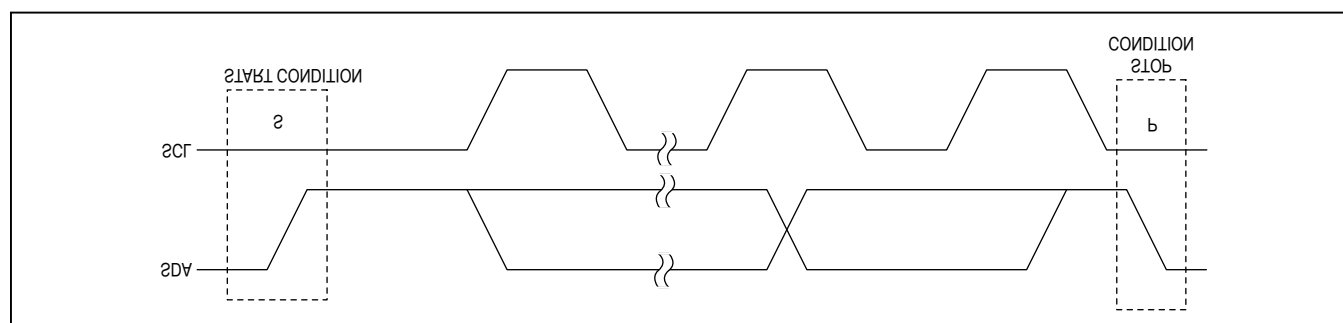
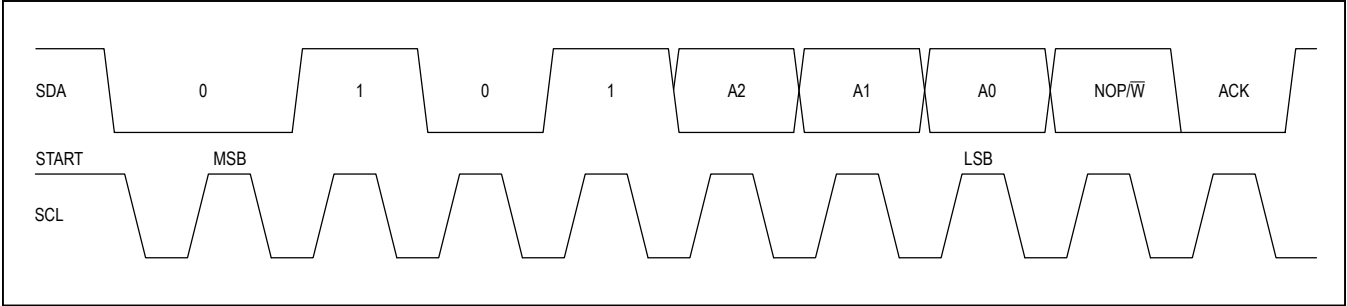

Figure 3. START and STOP Conditions
Figure 6. Slave Address
Each transmission consists of a START (S) condition (Figure 3) sent by a master, followed by the MAX5387 7-bit slave address plus the NOP/ \overline{W} bit (Figure 6), 1 command byte and 1 data byte, and finally a STOP (P) condition (Figure 3).
The MAX5387 includes a 7-bit slave address (Figure 6). The 8th bit following the 7th bit of the slave address is the NOP/ \bar{W} bit. Set the NOP/ \bar{W} bit low for a write command and high for a no-operation command. The device does not support readback.